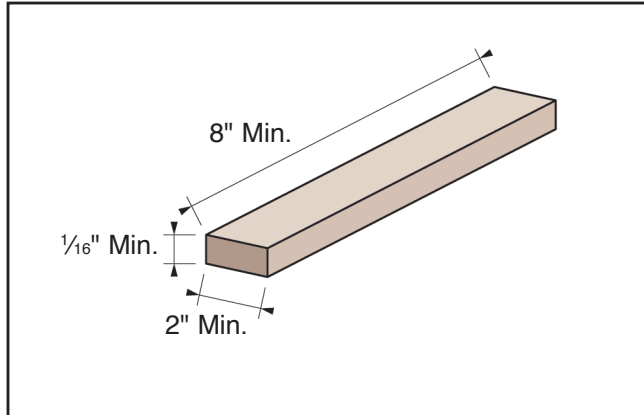

Figure 23. Minimum dimensions for sanding.
- DO NOT sand boards less than 8" long, 2" wide, and 1/16" thick to prevent damage to the workpiece and the sander (see **Figure 23**).